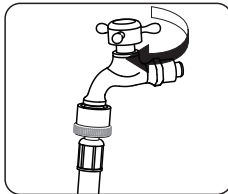

Fig. 18
- Turn off the water faucet (Fig. 18).